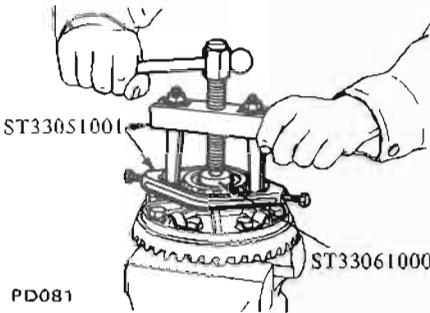

Fig. PD-10 Removing side bearing
1. Extract bearing using Differential Side Bearing Puller ST3306S000 (set of ST33051001 and ST33061000). See Figure PD-10.